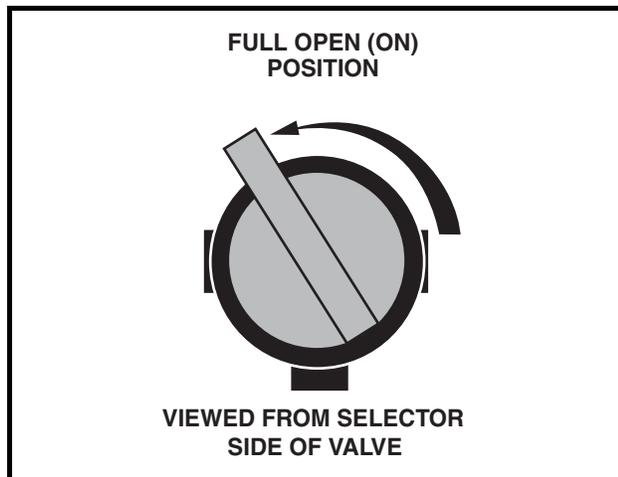
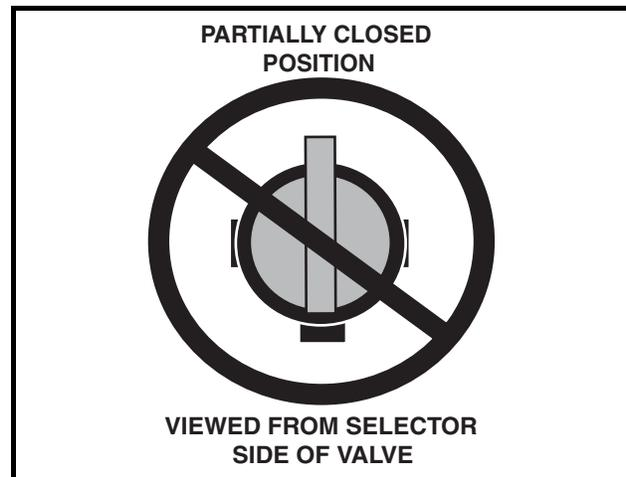

Figure 19 Fuel Shut-off Valve – Open Position
Figure 20 Fuel Shut-off Valve – Partially Closed Position
3. Completely open the fuel shut-off valve (**Figure 19**). Make sure the valve is fully open. A partially closed fuel shut-off valve (**Figure 20**) combined with the use of the choke can result in a fouled spark plug and engine failure.